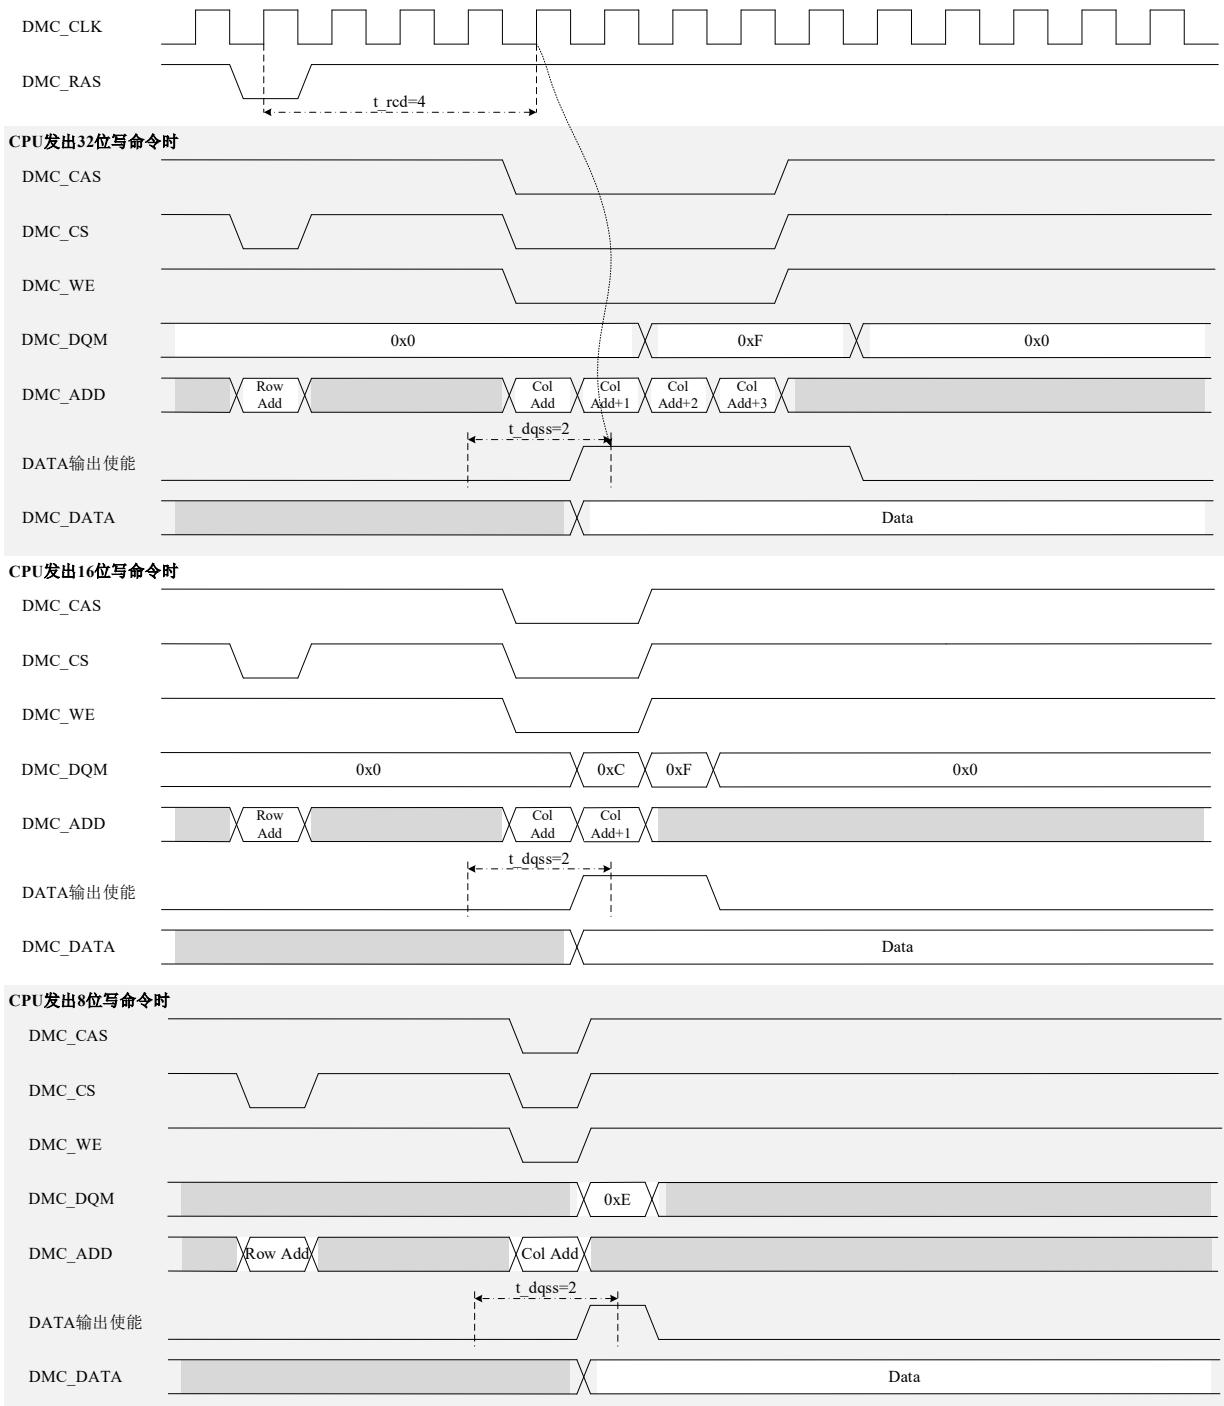

Figure 40-31 Basic timing of single write operation (32-bit width (DMCMW=01))
b) Figure 40-31 is the basic timing diagram of a single write action.